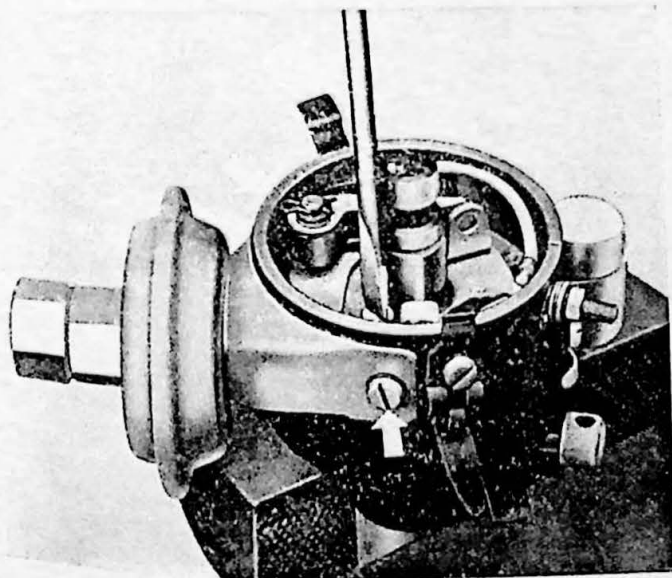

Fig. 10-53. Removing the vacuum regulator
2. Disconnect the vacuum regulator by unscrewing the screws as shown in Fig. 10-53 and then lifting it off.